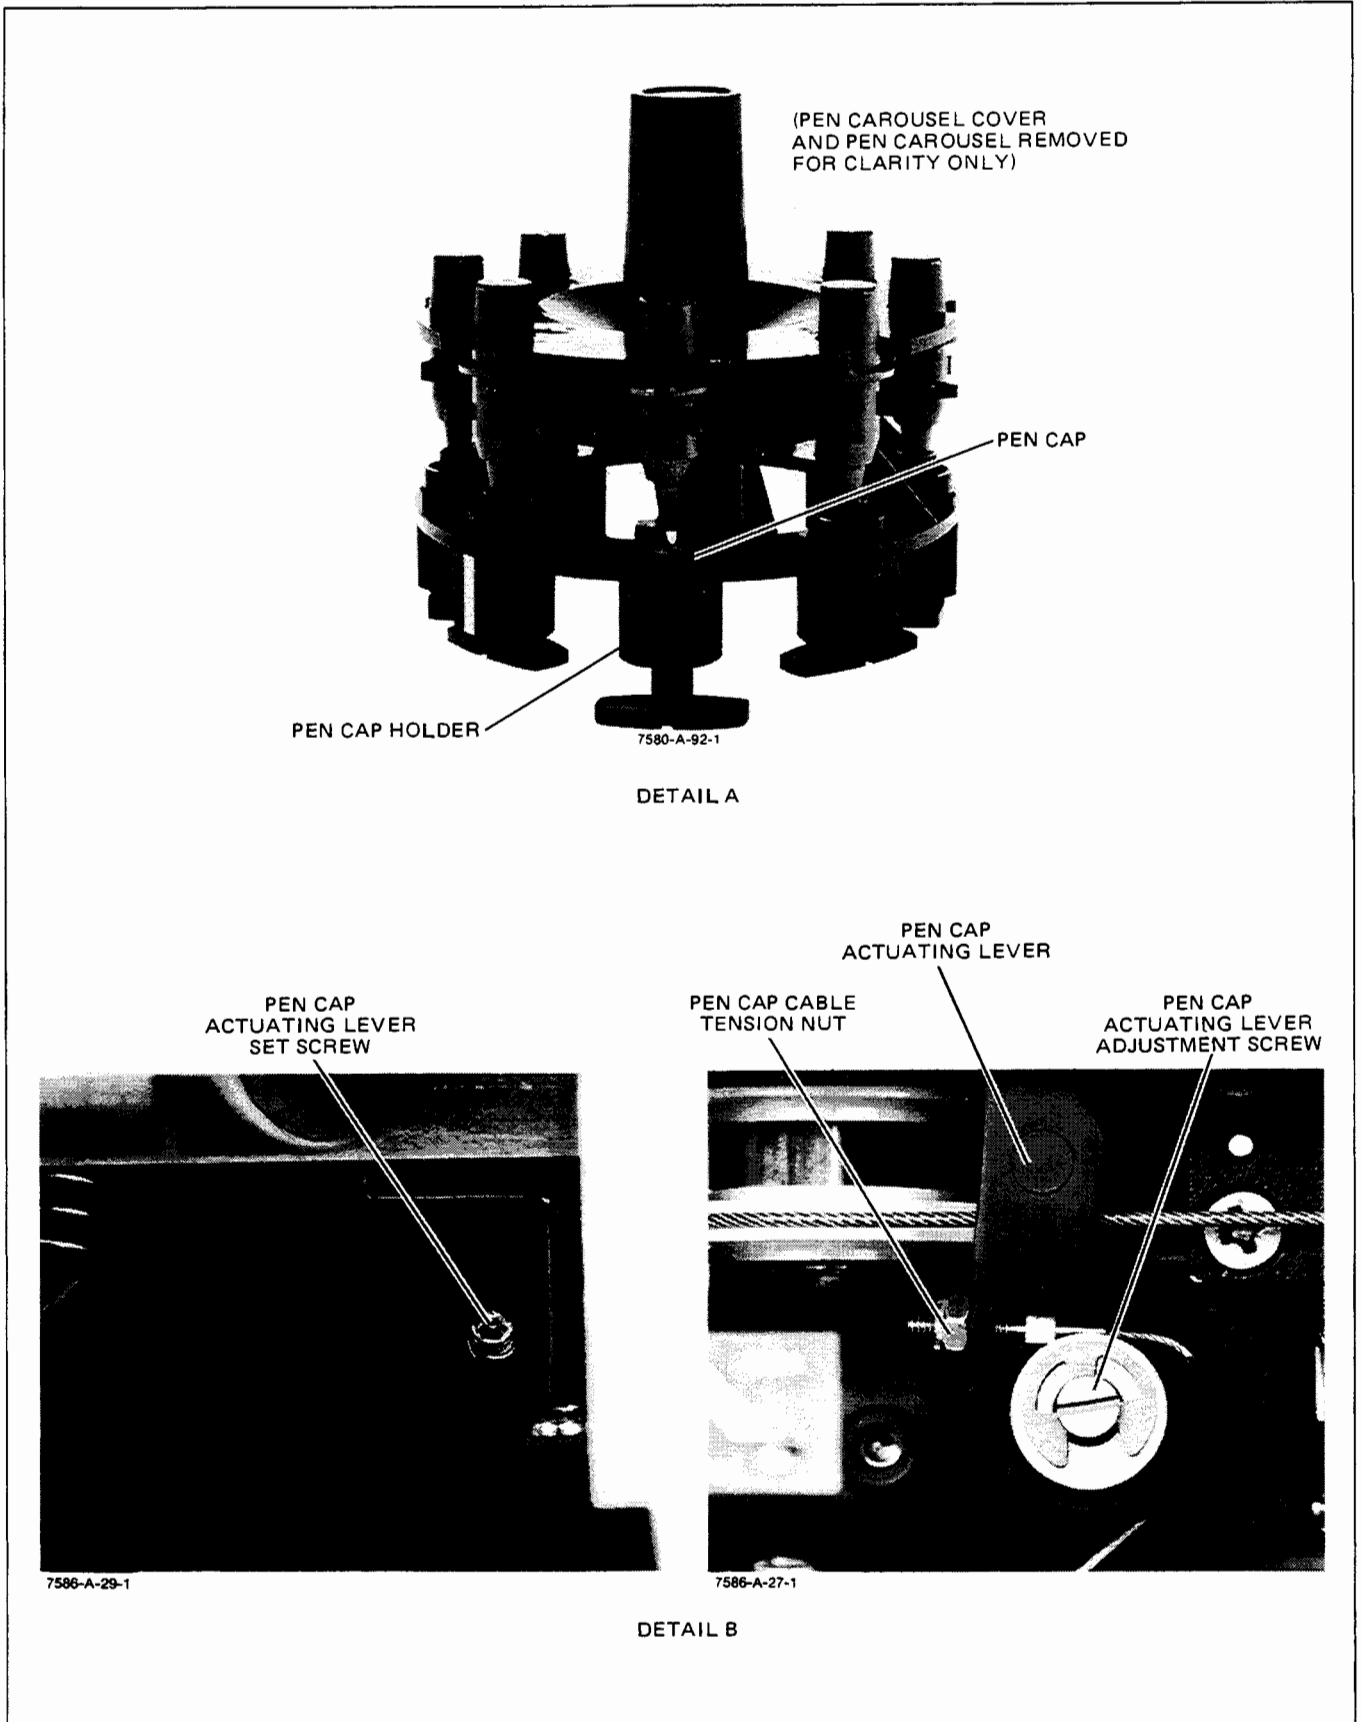

Figure 3-11. Pen Cap Cable Tension and Actuating Lever Adjustment
- c. When the pen cap is down, its top should be level with the surface of the pen cap holder in the carousel. See Figure 3-11, Detail A.
- d. If the top of the pen cap is not level with the pen cap holder surface, adjust the pen cap cable tension nut, located on the actuating lever, clockwise (CW) to lower the cap or counterclockwise (CCW) to raise the cap. See Figure 3-11, Detail B.